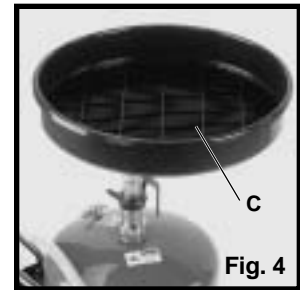
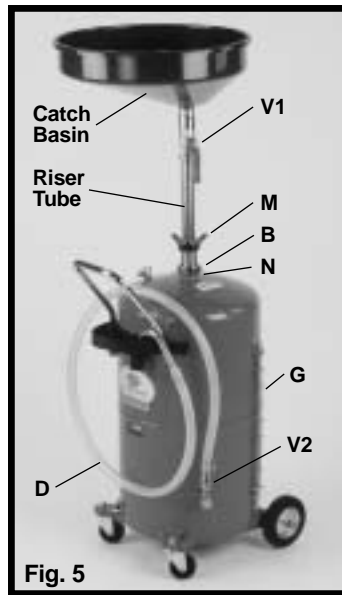

Fig. 4
Fig. 5
'C' inside the drain pan as shown (fig. 4). Attach the hose 'D' with the hose clamp provided using a flat head screw driver (fig. 5).
Connect the assembled riser tube/catch basin assembly to the reservoir tank (fig. 5) by tightening ring nut 'B' with a spanner wrench or large slip joint pliers. Place the filter grate
Daily use: To raise and lower the catch basin, loosen compression wing nut 'M' (fig. 5) and hand tighten after reaching the desired height.
Make sure that the four air vents 'N' (fig. 5) are unobstructed by not raising the riser tube assembly to its full up and locked position.
With drain valve 'V1' (fig. 5) closed, drained oil remains in the pan (pan capacity is 25 quarts). To drain oil from the pan to the tank, open drain valve 'V1' (fig. 5).
Note: Never fill the reservoir over the "STOP" level indicated by the sight gauge 'G' (fig. 5) on the side of the reservoir. Ensure that the discharge valve 'V2' (fig. 5) is closed to prevent inadvertent drainage of oil.
- 1.) Raise the catch basin/riser tube assembly (fig. 5) to its full up and locked position. This seals off the four small air vents 'N' at the bottom of the riser tube (fig. 5) and allows the reservoir to be pressurized.
- 2.) Close valve 'V1' (fig. 5).
- 4.) Pressurize the reservoir to approximately 7-10 PSI via Schrader valve 'V3' (fig. 6) and open discharge valve 'V2' (fig. 5). You may leave a regulated air supply (7-10 PSI) connected to the Schrader valve to allow
- 6.) After the fluid has been transferred from the reservoir, close valve 'V2' (fig. 5) and slightly lower (1-2 inches) the catch basin/riser tube (fig. 5) to once again allow air to escape while draining oil into the reservoir.